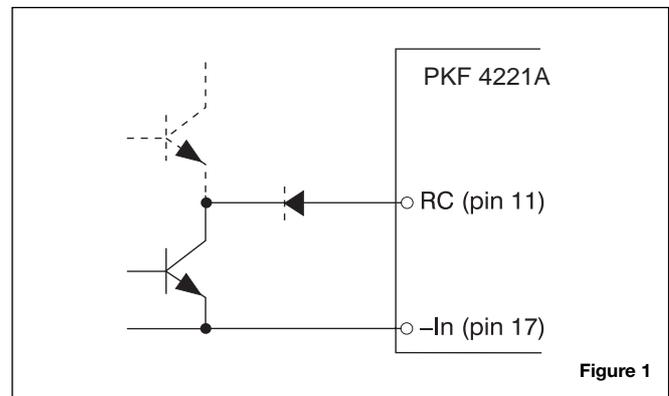

Figure 1
Turn-on or turn-off can be realized by using the RC-pin. If pin 11 is connected to pin 17 the power module turns off. Normal operation is achieved if pin 11 is open (NC). To ensure safe turn-off the voltage difference between pin 11 and 17 shall be less than 1.0 V. RC is an open collector compatible input. A sink capacity of 1mA is needed. (see fig. 1).